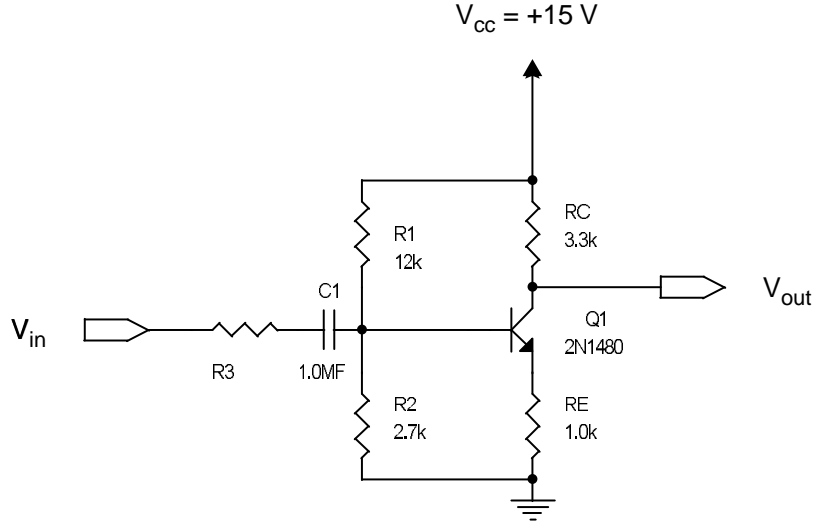

Figure 1: Basic Single Transistor Amplifier
So far we have been concerned only with the properties of the transistor itself. In practical amplifier applications, it is desirable to design a circuit whose properties are predictable, ie which don’t depend strongly on your accidental choice of a specific transistor. In Fig. 1 we show a very common configuration of base and emitter biasing for the common emitter configuration of amplifier. This circuit is reasonably stable against variations in transistor properties (for  $\beta = h_{fe}$  ranging from 14 to 40, the Q point stays within 20% of  $V_{CE} \simeq 6.5\text{ V}$ ).
5. Next connect the circuit as shown schematically in Fig. 1. Be sure to check the transistor base diagram at the end of the transistor data sheet. (**Transistors** are normally drawn as if you were **looking at the transistor leads from the lead side** while integrated circuits are normally drawn as if you were looking at the pins from above the circuit board, ie from the side away from the IC pins.) Measure  $V_{CE}, V_E, V_B$ , and  $V_{BE}$  and compare with your calculated values. (They should agree within  $\sim 10\%$ ). *Note: A layout similar to that shown in Fig. 3 will require few changes to complete the investigations.*